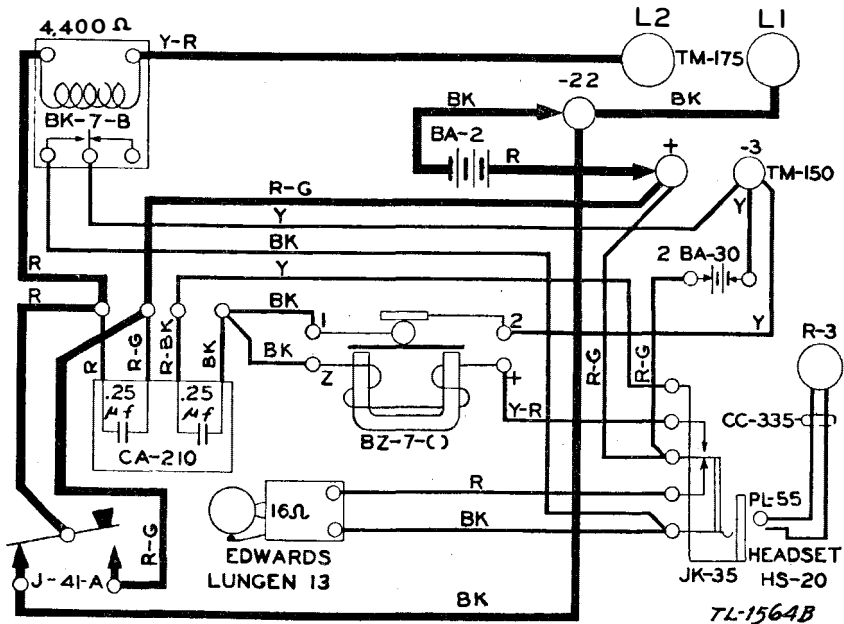

FIGURE 4.1.—Telegraph set TG-5-B—circuit diagram.
c. (Added.) Telegraph set TG-5-B.—The circuit diagram shown in figure 4.1 is a copy of that mounted in the cover of the box. In this diagram, the same abbreviations are used for colors of the wires as are